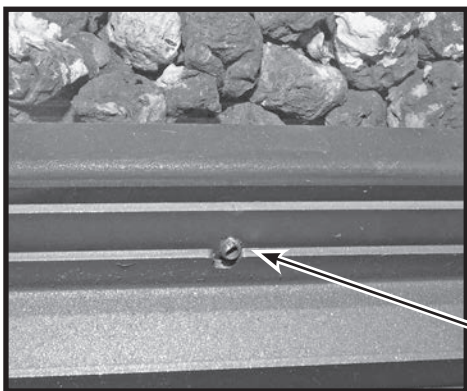

Figure 55: Glass panel position tab.
2. Align the glass door frame laterally so that its protruding positioning stud (Figure 55) fits into the slot in the firebox. This will line up the bolt holes of the glass door frame to the firebox frame.